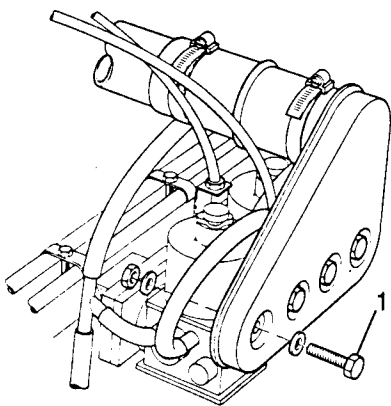

Fig B4.7
- (15) Refer to Fig B4.7. Remove the air intake box by removing the four bolts (1) holding the box to the carburettor. Note that the bolts have loose nuts and washers behind the box.